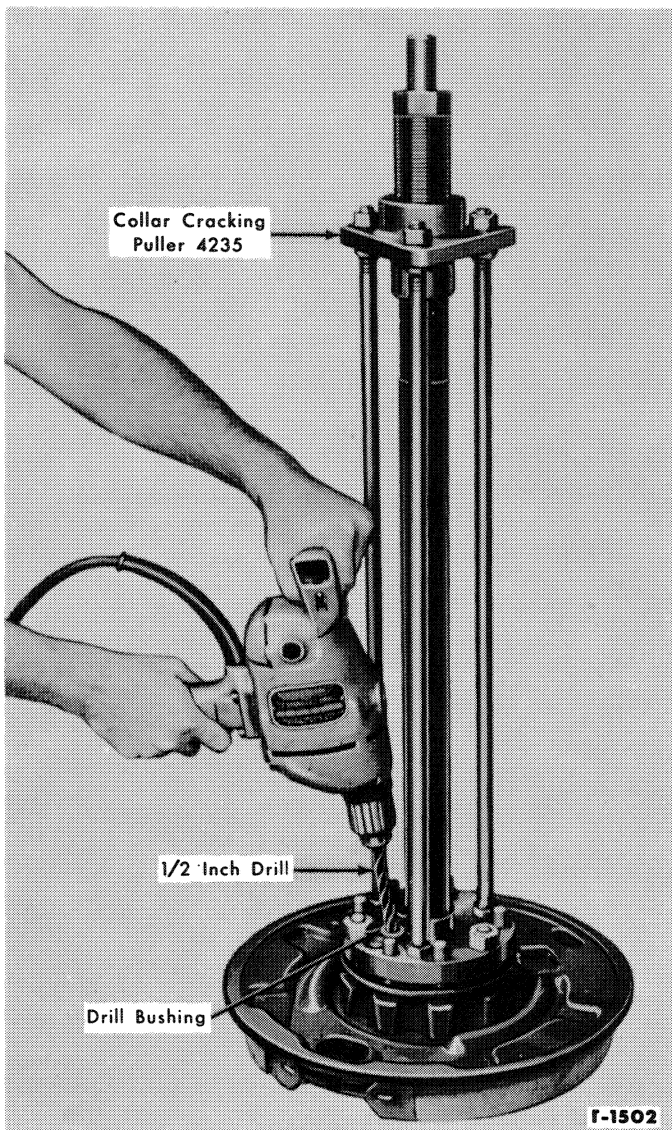

Figure 2—Drilling Hole in Bearing Retaining Collar
2. Install the Collar Cracking Puller, NCA-4235, on the bearing retainer as shown in Figure 2. Use a $\frac{3}{32}$ " drill bit, and drill a pilot hole through the collar.